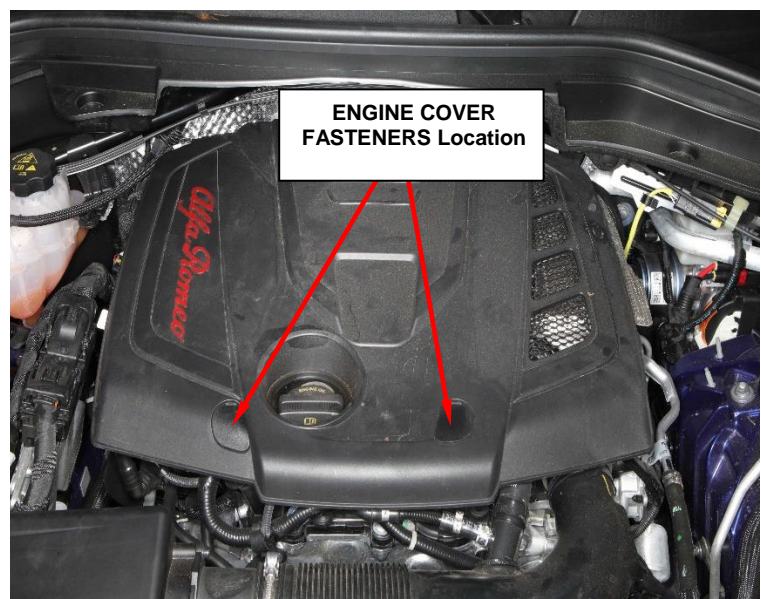

Figure 6 – Engine Cover
9. Using a small blade screwdriver or equivalent pry on the engine cover caps to access the engine cover fasteners and remove the cover (Figure 6).
8. Align and install the engine cover and fasten the screws securely (Figure 6).